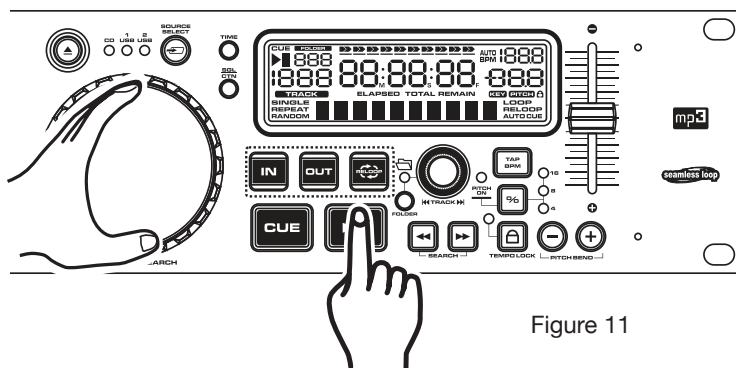

Figure 11
This feature allows you to scroll through a track to set a cue, or loop point. To use the scroll function you must first be in Pause Mode or Cue Mode. Once you are in Pause or Cue mode, use your finger tip or hand to turn the *JOG WHEEL* (18) to scroll through the track (figure 11). Turning the wheel in a clockwise direction will advance the frame search and turning the wheel in a counter-clockwise direction rewinds the frame search. When you use the *JOG WHEEL* (18) the monitor (headphone level) of a mixer allows you to here what you are scrolling through. Once you reach your desired starting point you can set a cue (starting) point by pressing the *PLAY/PAUSE BUTTON* (15) as in figure 11. Pressing the *CUE BUTTON* (16) will return the disc to the cue point just set.